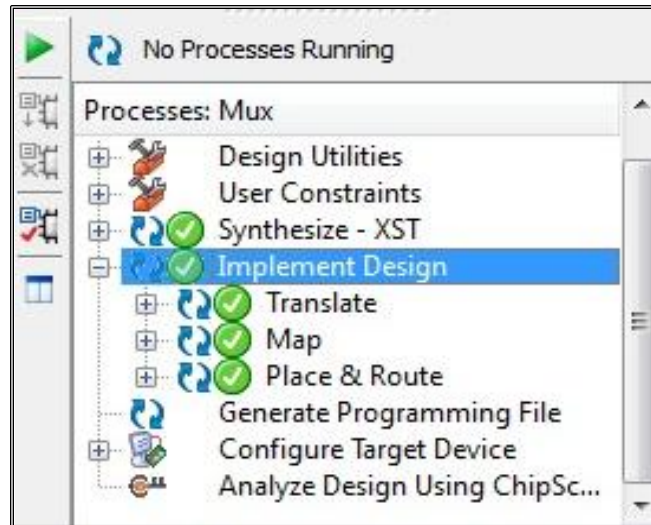

Fig 2.28: Implement Design
26. Next step is the implementation of the design. Right click **Implement Design** and click **Run**. After successful implementation a green check will appear on all the three steps i.e. translate, map and place & route (Fig 2.28).